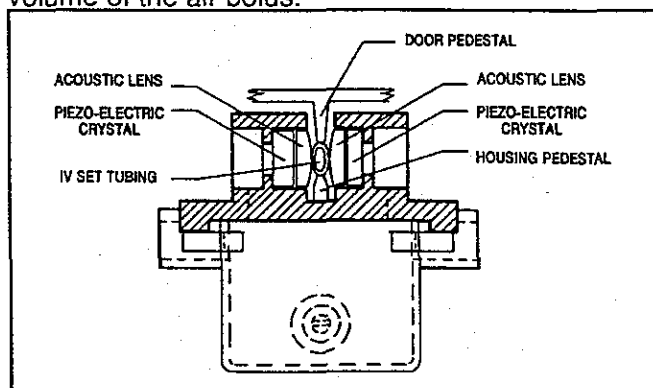

Figure 4-4. AIL Detector Cross Section
The active elements of the PC-2TX's air-in-line detection system include two piezo-electric (PE) crystals and a signal processing circuit. The PE crystals and acoustic lenses are bonded into recesses in the AIL/SCD housing (see Figure 4-4). The signal processing circuit is part of the AIL/SCD printed circuit board. Ultrasonic sensing is used for air-in-line detection since ultrasonic wave transmission is independent of fluid opacity.